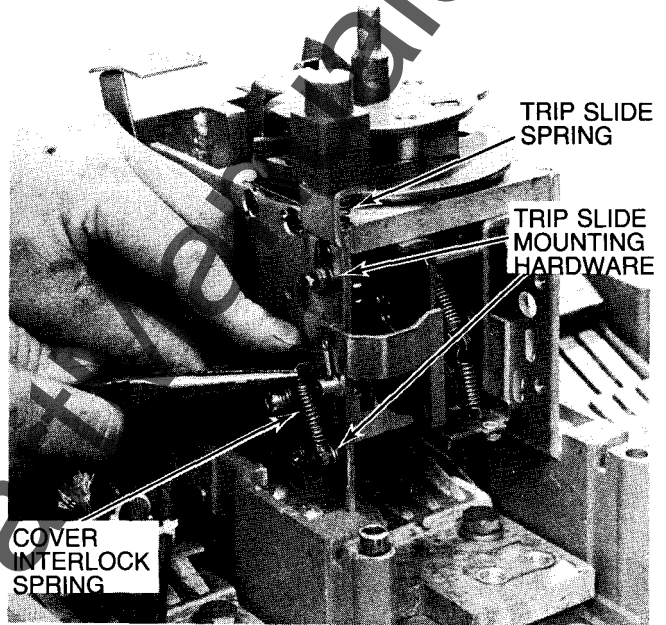

Figure 12.
2. Remove and save the trip slide mounting hardware shown in Figures 12 and 13.